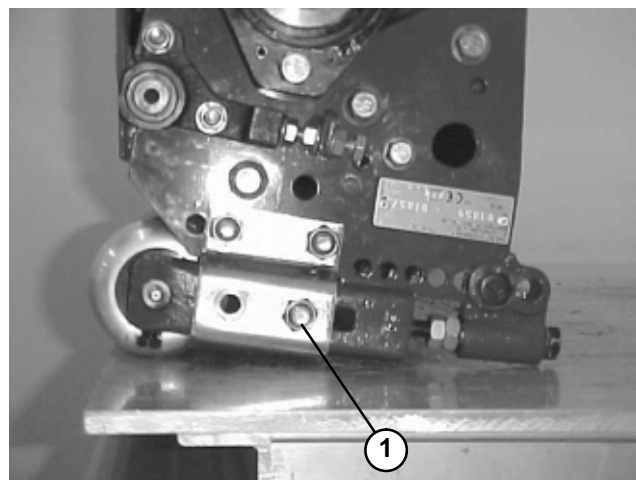

Figure 27
4. Loosen lock nuts on rear side brackets (Fig. 27).